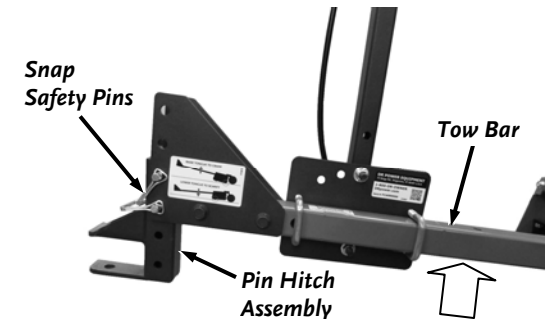

Figure 34
- Adjust the Tow Bar to the highest position for most aggressive grading (Figure 34).